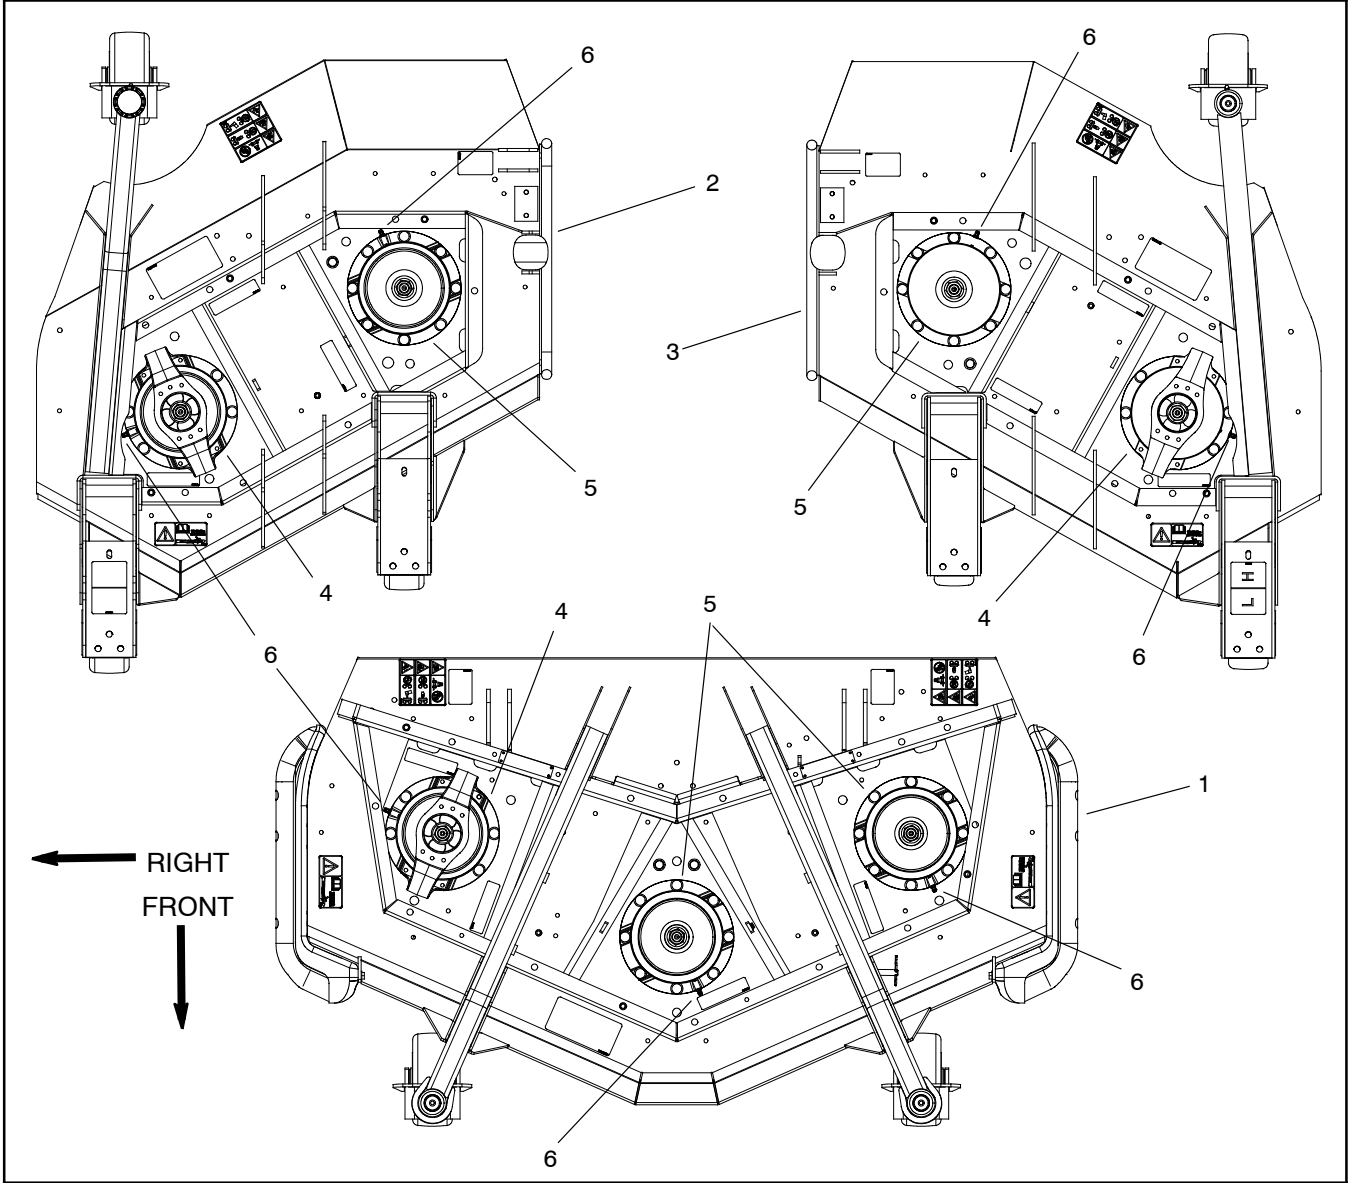

Figure 11
Removal (Figs. 11 and 12)
Installation (Figs. 11 and 12)
2. Position spindle assembly on cutting deck noting orientation of grease fitting (Fig. 11). Secure spindle assembly to deck with removed fasteners.